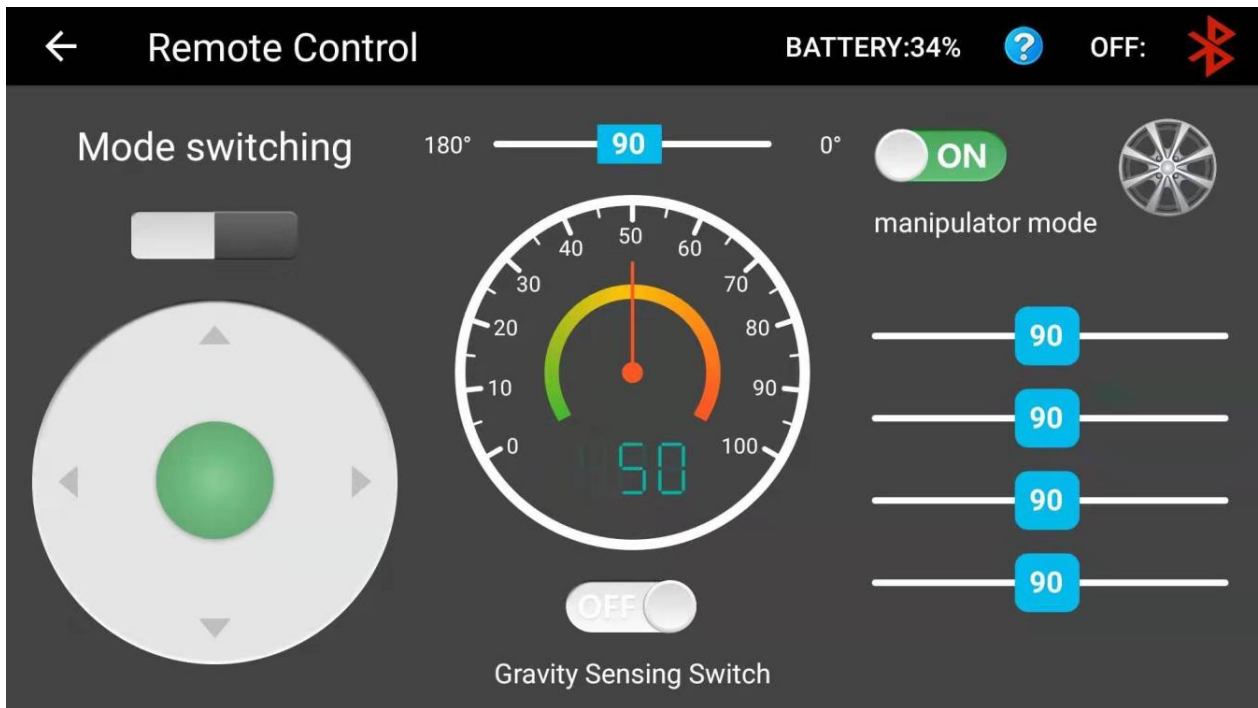

Figure 5-1-2
- Open the mode switch of the mechanical arm, and the control interface of the mechanical arm appears, as shown in figure 5-1-2. The mechanical arm can be operated